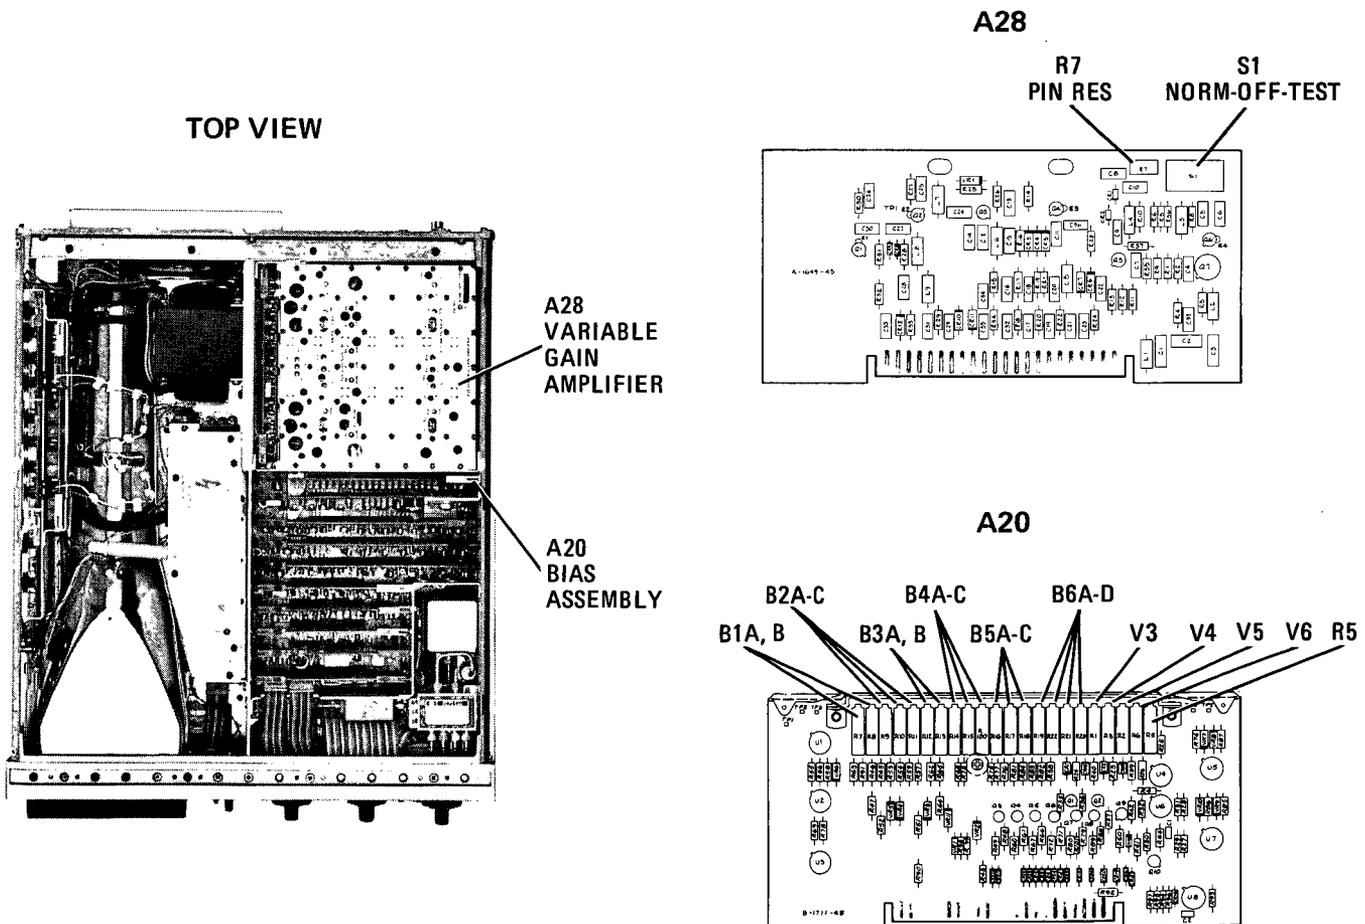

Figure 5-56. Frequency Response Adjustment Locations
c. Set A28S1 NORM-OFF-TEST switch (Figure 5-56) to OFF. Set synchronizer ERROR SIGNAL switch to +. Set function generator for a 1 kHz 1 to 2-volt peak-to-peak sine wave output.